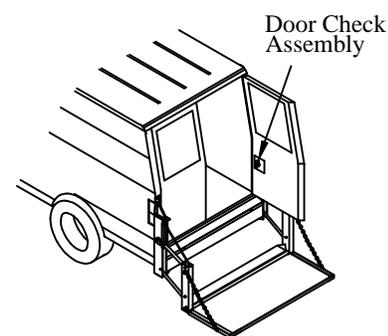

Figure 11: Door check assembly location.
1. **Position** the rear doors so that they do not contact the liftgate (Figure 11).
2. **Remove** the interior pannels (if equipped) to expose the door check assembly (Figure 11).